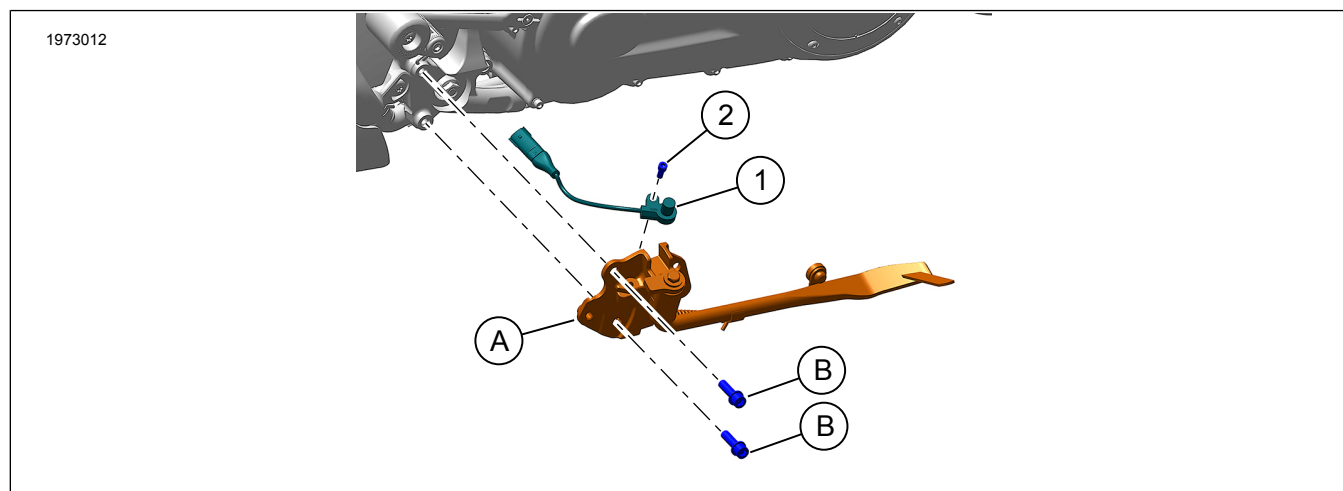

Figure 1. Kit Contents: Jiffy Stand Sensor
1. See Figure 1. Apply threadlocker to screw (2).